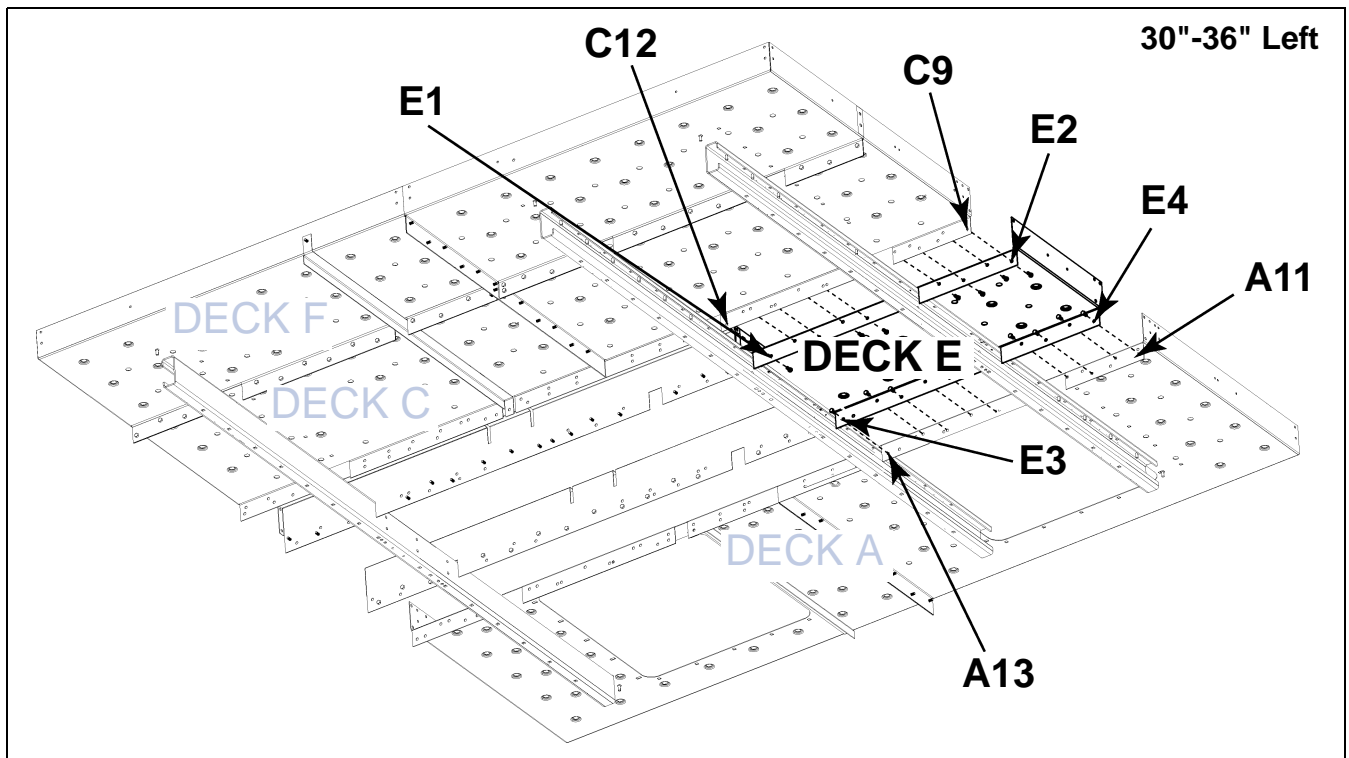

Figure 9P
1. Position Deck E between Deck A and Deck C. Note that Deck E will be connected to two (2) channels. (See Figure 9P on Page 80.)
4. Connect the Deck E kick plate flanges to toe boards and flanges of Deck A and Deck C using 3/8" x 3/4" bolts (S-7105) and 3/8" nuts (S-10028). (See Figure 9P on Page 80.)
5. Align and connect Deck E to Deck A and Deck C using 3/8" x 1" bolts (S-7469) with flange nuts (S-10028). (See Figure 9P on Page 80.)